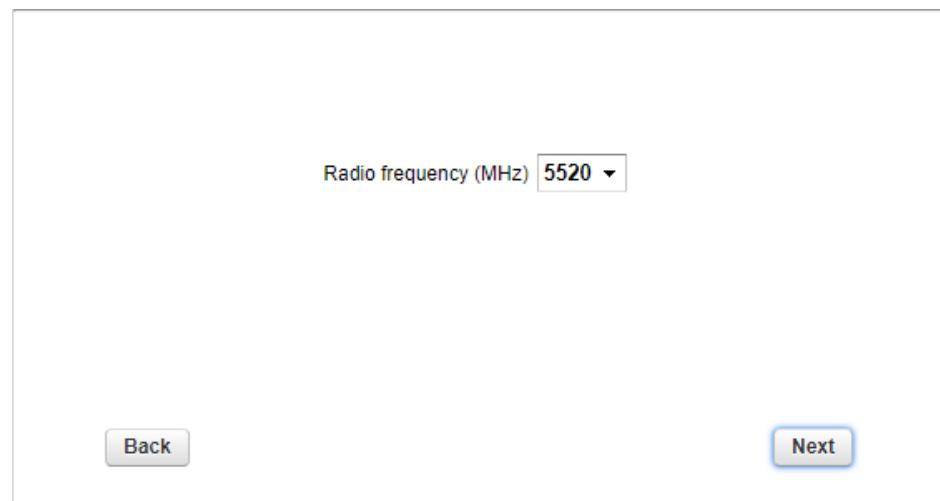

Figure 15. MeshWizard (Radio frequency window)
- The radio frequency window will be shown (Figure 15 (page 43)).